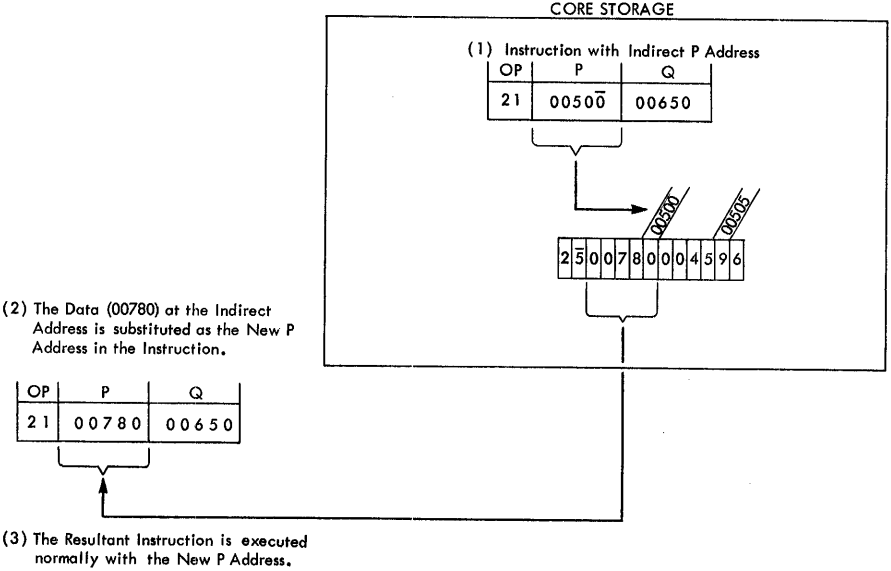

Figure 26. Data Flow, Indirect Addressing
The P or Q address of an instruction is indirect when a flag bit is over the units position. Figure 26 shows that (1) the instruction (21 00500 00650) has an indirect P address of 00500, (2) the data at 00500 is 00780, which is used as the P address during execution of the instruction, and (3) the instruction (21 00500 00650)